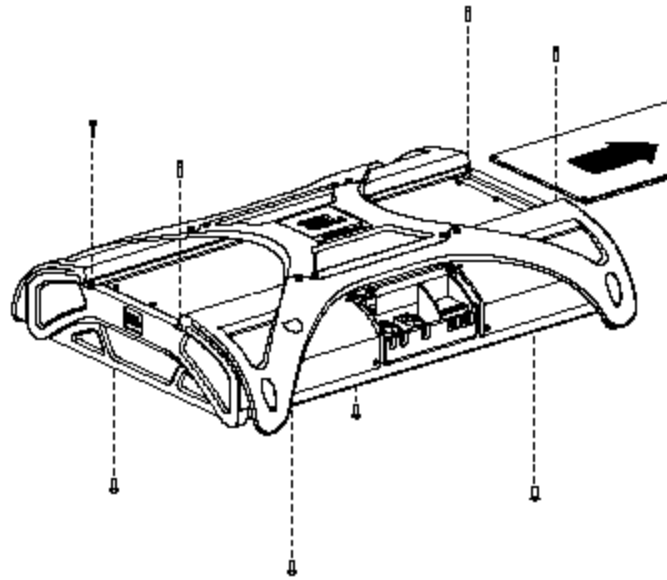

Figure 4.1 Plexiglas Removal.
1. On a soft surface, turn the amplifier over to view the bottom. Using a T-25 screwdriver, remove the four large Torx-head screws at bottom corners. (Figure 4.1)
2. Turn the amplifier over to view the top. Using a 5 /32 inch Allen wrench, remove the four cap head screws on the clear plexiglas cover. (Figure 4.1)